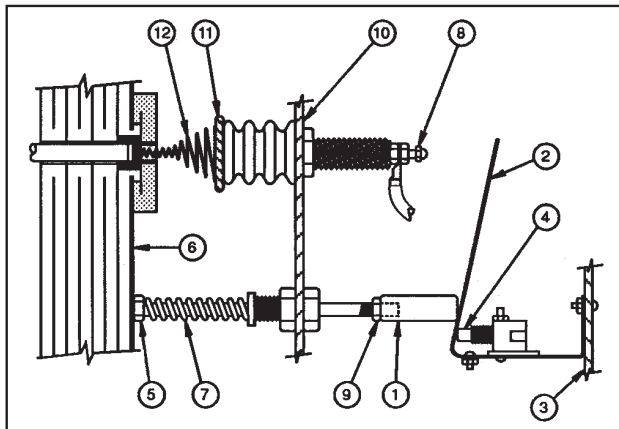
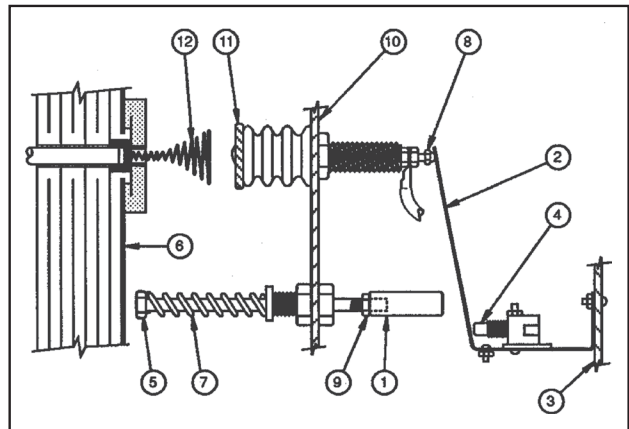
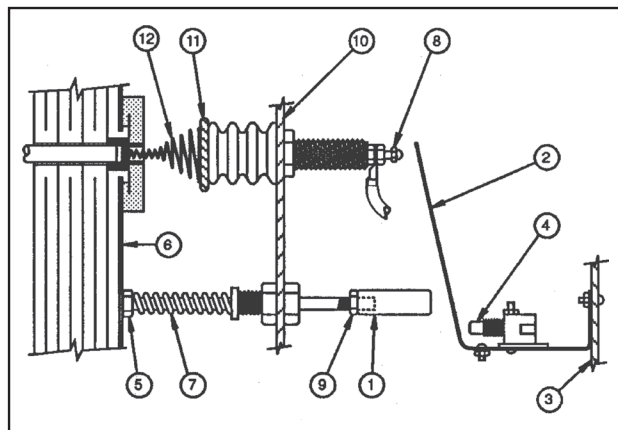

Figure 9
Figure 10
Figure 11
During normal operation, (refer to Figures 9, 10 and 11) with unicells in place, the component door (10) and the power pack door closed (3), the push rod (5) is in contact with unicell endplate (6). Push rod extension (1) is in contact with the ground bar (2) and bends to contact the limit switch (4) refer to Figure 10. Upon opening the component door (10), the push rod (5) is released from the unicell endplate (6) and spring (7) compression is relieved, breaking the contact of the push rod extension (1) from the ground bar (2), placing AC voltage off line to the power pack and causing the grounding bar to contact the acorn nut (8), refer to Figure 11. When opening the power pack door (3), the spring (7) remains compressed but the grounding bar (2) is pulled from the push rod extension (1) as the power pack door (3) is opened. AC voltage is placed off line to the power pack by opening the limit switch (4) which the unicells are grounded through the acorn nut (8), but with the contact spring (12) fully compressed, refer to Figure 11.